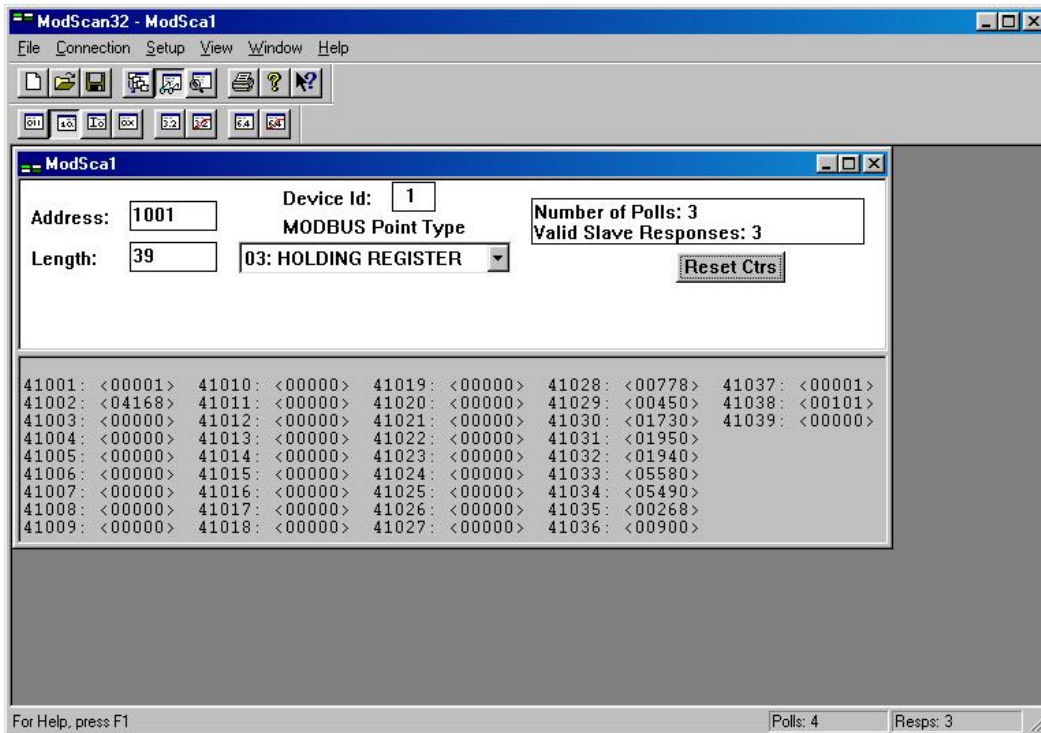

FIGURE 8. MODBUS POINT TYPE = HOLDING REGISTER
5. On the main ModScan screen (see Figure 8), Change the Address to 1001, the Length to 39,